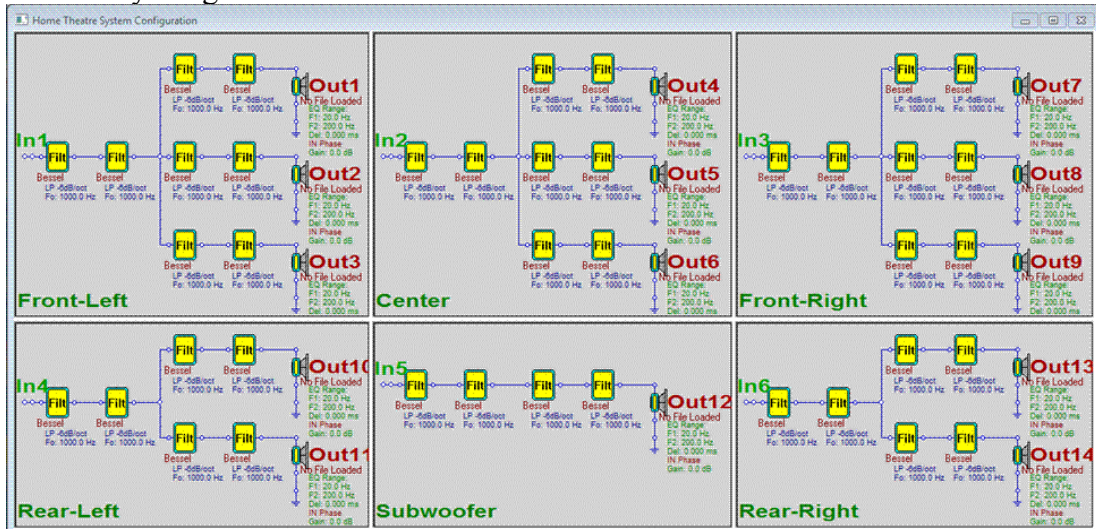

Figure 63. Home Theater 3 option.
- **Home Theater Option 3:** Similar to Option 2 but all front speakers are 3-ways. Figure 63.